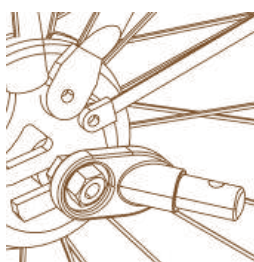

Figure 12
2. Nuted Axle: Unscrew the nut with washer from the left side of the bike's rear axle. Install the hitch onto the axle and screw the nut back on with the washer (Figure 12).